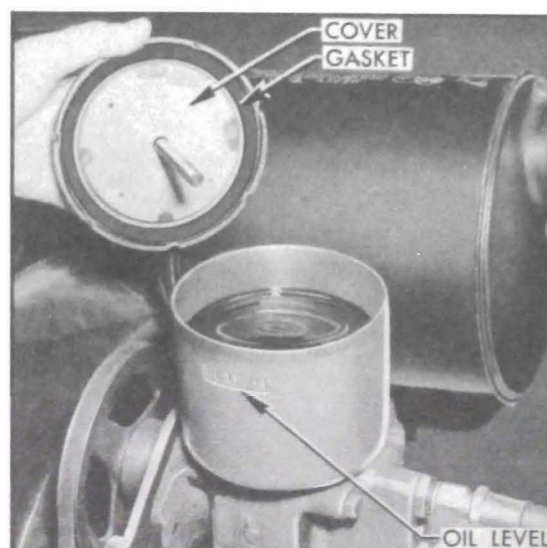

Figure 1-15—Oil Pump Reservoir
6. *Power Steering Gear.* Thoroughly clean dirt from reservoir on top of oil pump then remove cover. Add oil specified for Dynaflo Drive (par. 1-4) as required to bring oil level to mark in reservoir. Make certain that gasket is good before installing reservoir cover. See figure 1-15.